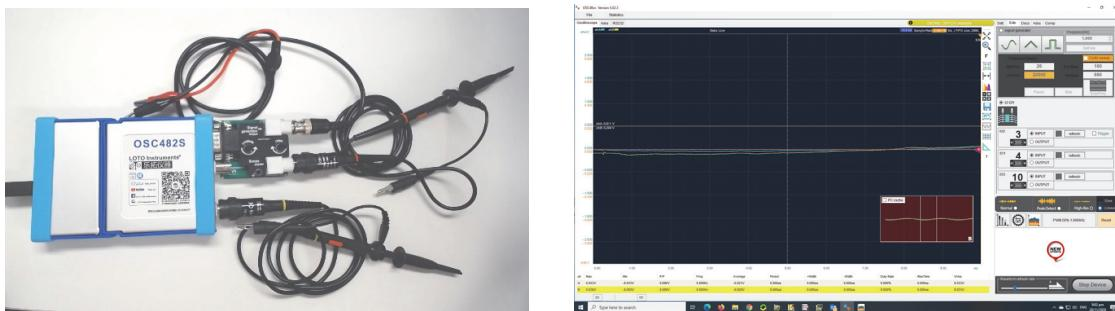

Fig. 16
- 5.3.2 Connect the USB oscilloscope to the computer, and start he USB oscilloscope program, as shown in Fig. 16. You should enable “High-Res” for better waveform display.